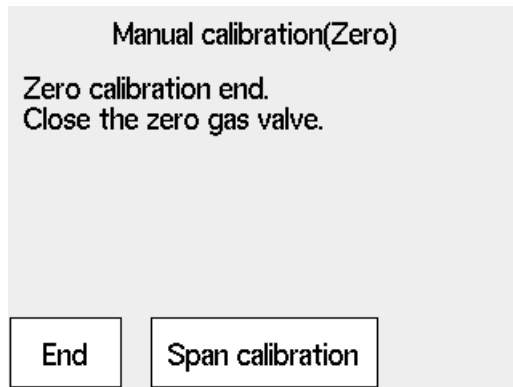

Figure 6.24 Zero Calibration complete
- (9) After the measured value has stabilized, press the [Enter] key to display the “Zero calibration complete” display shown in Figure 6.24. At this point, the measured value is corrected to equal the zero gas concentration setting. Close the zero gas flow valve. The valve lock nut should be tightened completely so that the zero gas does not leak.